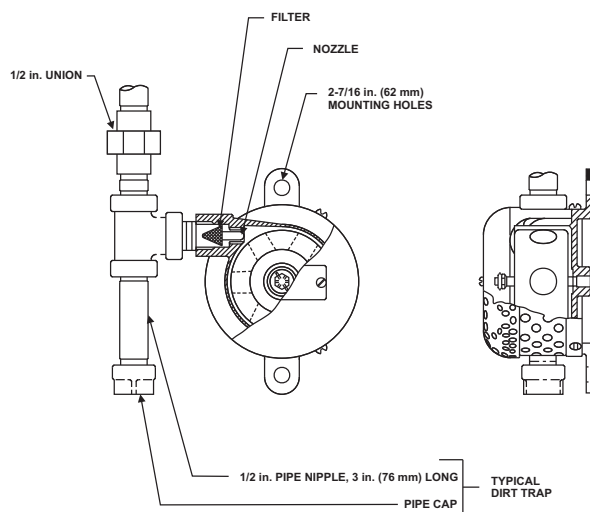

Figure 4-35. Pressure Operated Siren
- Install a dirt trap and union as shown in Figure 4-35.